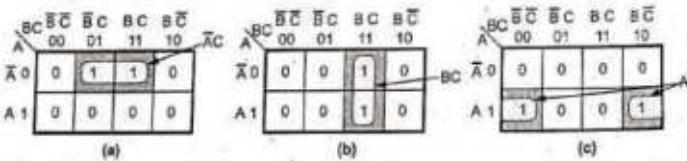

Fig. 4.2.12
- Fig. 4.2.12 (b) shows an example of two vertically adjacent 1s. These two can be combined to eliminate A variable since it appears in both its uncomplemented and complemented forms. This gives result
- In a Karnaugh map the corresponding cells in the leftmost column and rightmost column are considered to be adjacent. Thus, the two 1s in these columns with a common row can be combined to eliminate one variable. This is illustrated in Fig. 4.2.12 (c).